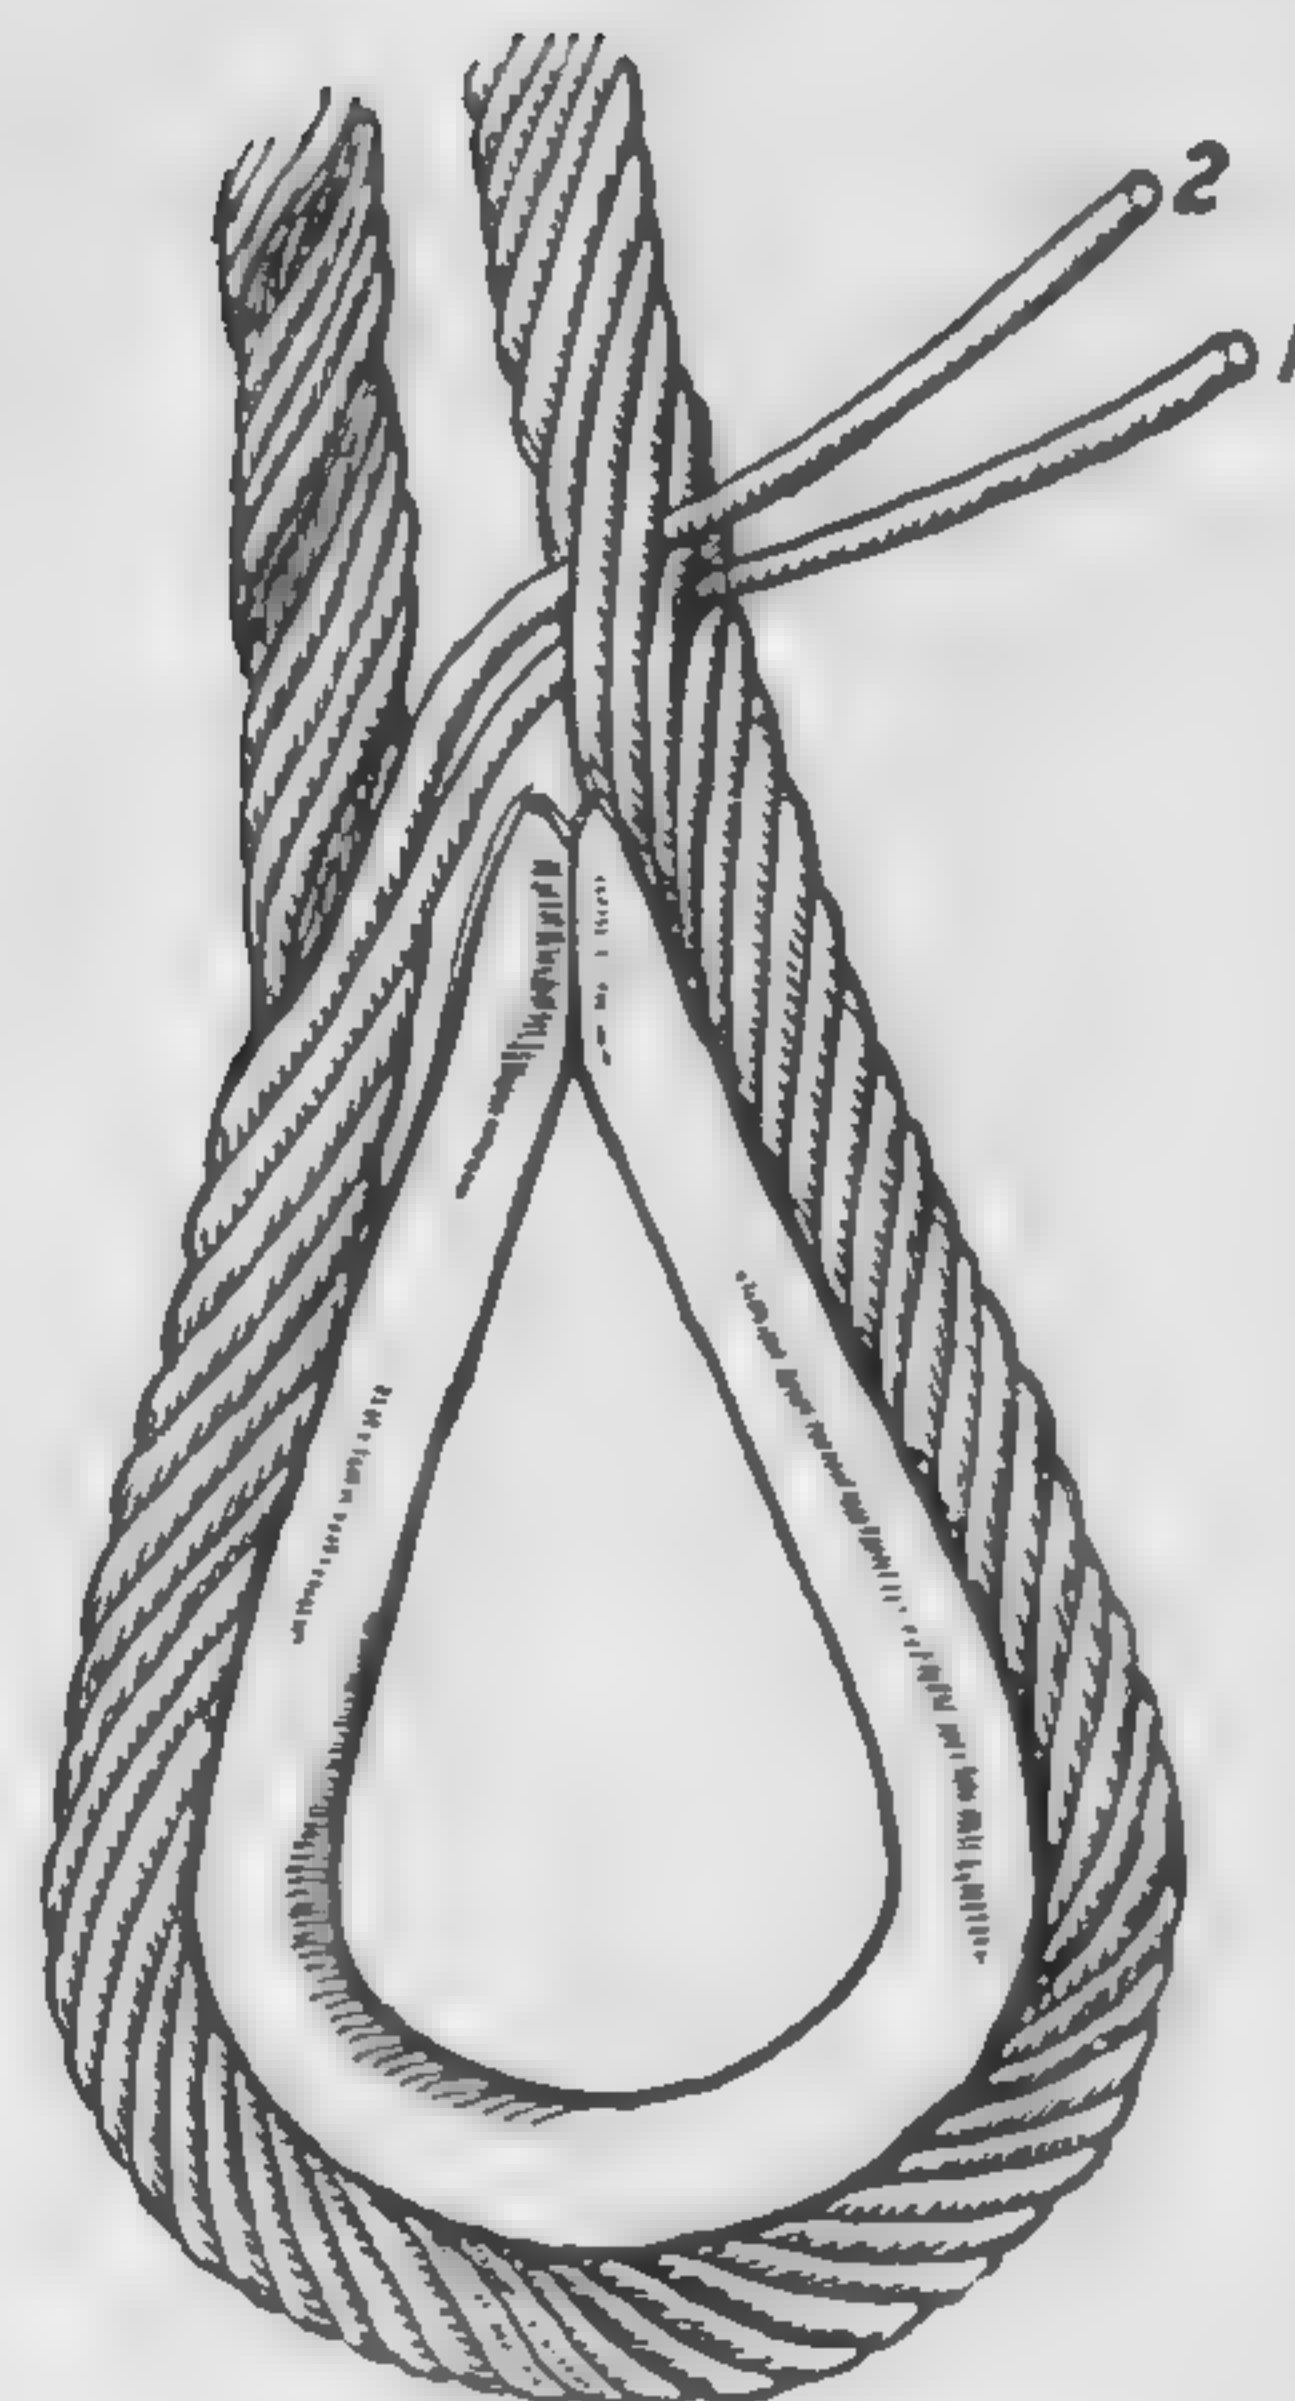

Fig. 14. Step 2 of the First Tuck
Step 2. Hold the cable in the same position. Loosen the strand to the left of No. 1. This strand is No. 2. It goes in the same place as No. 1 only it goes under two instead of three strands. See Fig. 14.